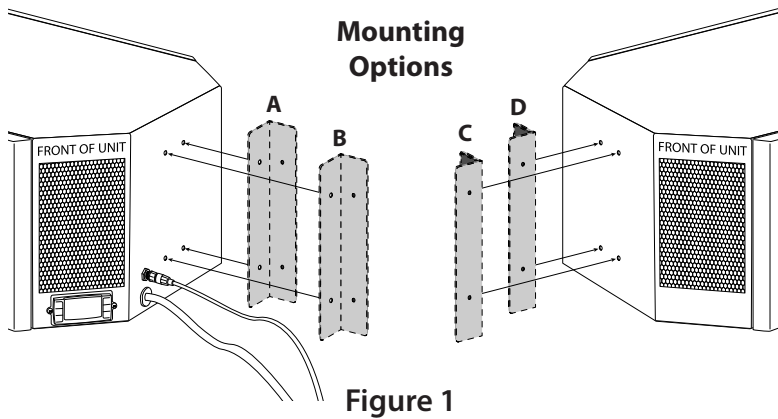
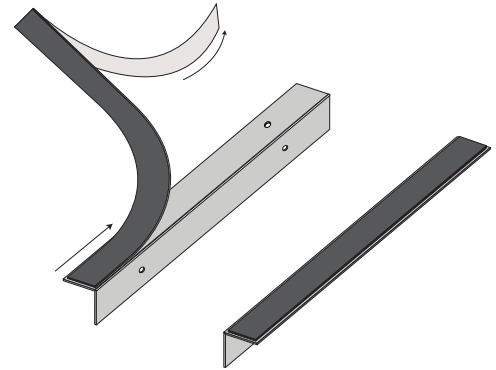

Figure 1
Figure 2
Determine which of the four bracket mounting options (displayed in Figure 1) will be the most suitable for the desired position of the cooling unit.
If the desired option is (A) or (B) displayed in Figure 1, the foam tape should be placed as shown in Figure 2.
If the desired option is (C) or (D) displayed in Figure 1, the foam tape should be placed as shown in Figure 3.
3. Place bottle probe securely into bottle as seen in Figure 1.
5. To ensure a consistent temperature, place bottle probe approximately three (3) feet away from the air output and not in the flow of the air.